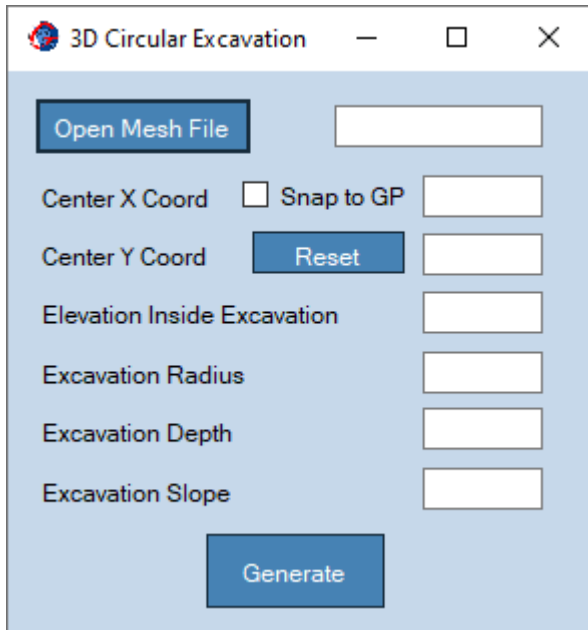

Figure 27: 3D Surfaces Menu – Circular Excavation.
- **Snap to GP:** This option is useful when coordinates (X,Y) are selected using the mouse. Given the unlikeliness of exactly clicking over a gridpoint (GP) coordinate, activating this option will internally correct the coordinate of the selected point to the closest GP coordinates. This option helps create straight edges of the landform perimeter, aligned with the mesh grid.
- **Meshing Menu, Circular Excavation:** This option (shown in Figure 27) defines a Circular Excavation landform over any given surface.